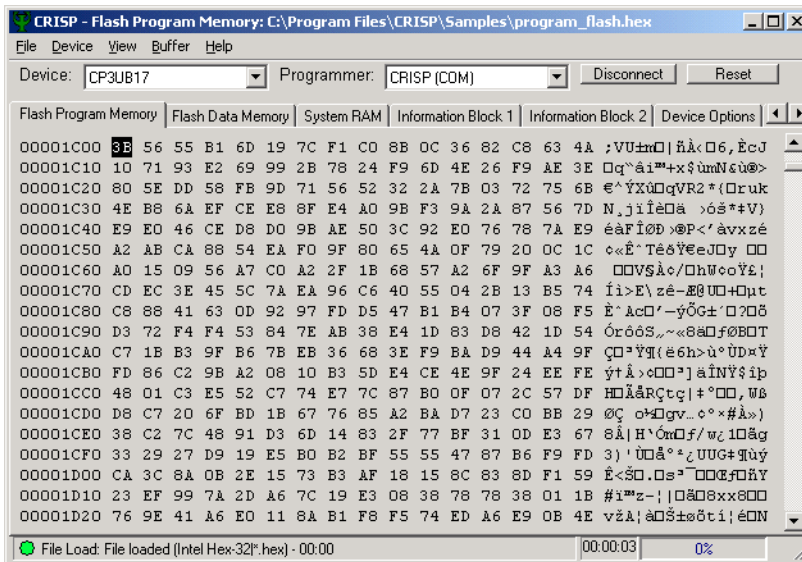

Figure 5-5. Contents of the File Displayed in the Main Window
3. **Examine the Hex File.** The **program_flash.hex** file starts at memory address 00 1C00h. The contents of the file are displayed in the Flash Program Memory tab in the main window as shown in Figure 5-5.